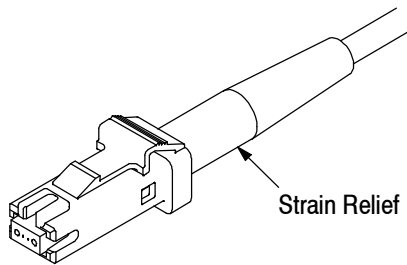

Figure 30
6. While holding the connector assembly, slide the strain relief toward the connector until it covers the entire crimp eyelet. See Figure 30.